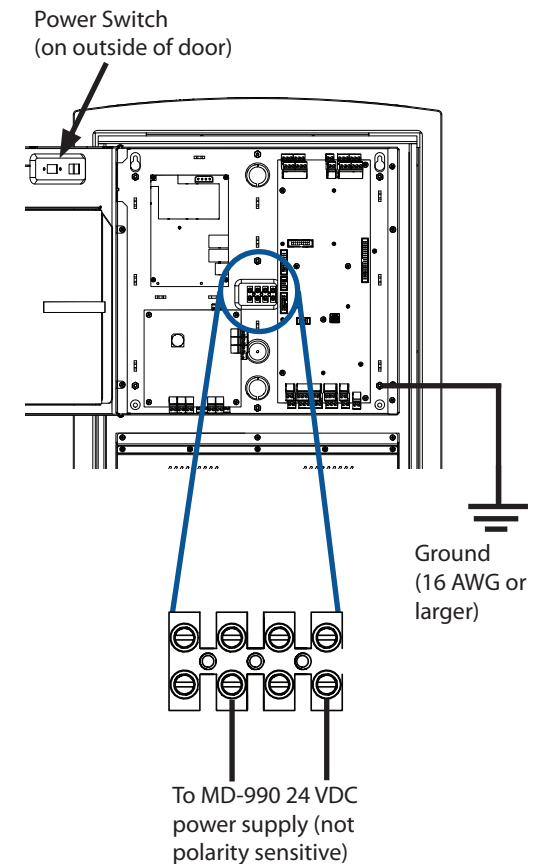

Figure 4: Chassis Ground and Power
1. Connect the MD-990 load power supply wires to the Touch Screen terminal screws as shown in Figure 4.